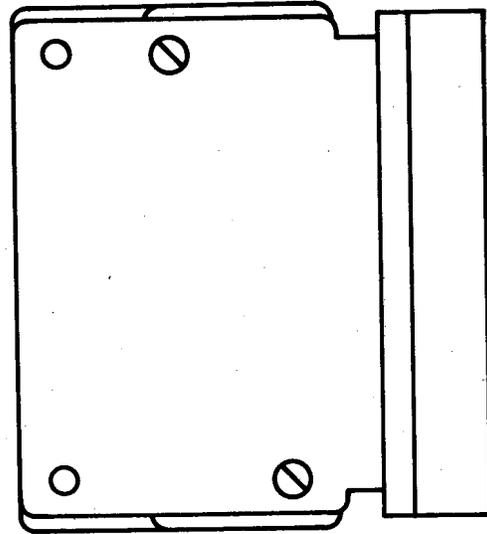

Fig. 8—809A Connector
2.10 809A: The 809A connector (Fig. 8) consists of two printed wiring boards attached together by four tapping screws. Two protective caps are furnished tapping screws. This connector is used as a replacement printed wiring board assembly for the 247B adapter.